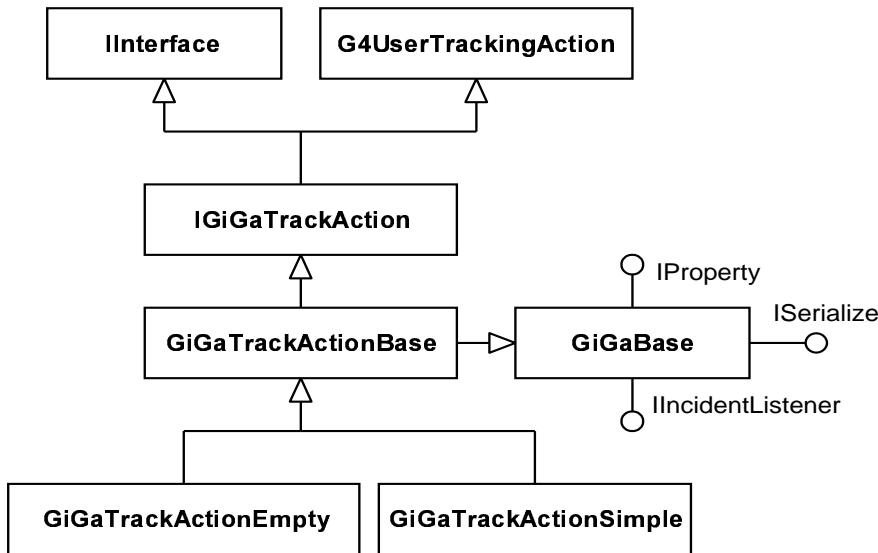

Figure 4.5: The class diagrams for **GiGaTrackAction** classes
**GiGA** provides the possibility of instantiation of such objects using abstract factories approach. To get this behaviour the intermediate abstract interface **IGiGaTrackAction** is defined by merging **G4UserTrackingAction** class with **IInterface** interface. Then one could reuse the standard approach of abstract factories to instantiate such objects. The simplified class diagrams are shown on figure 4.5.